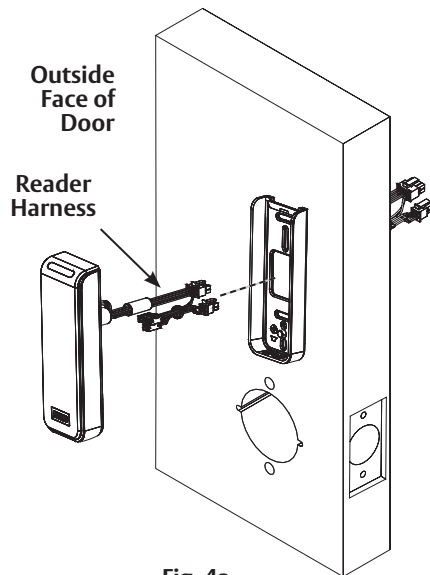

Fig. 4a
1. Feed reader harness through door (Fig. 4a, c)